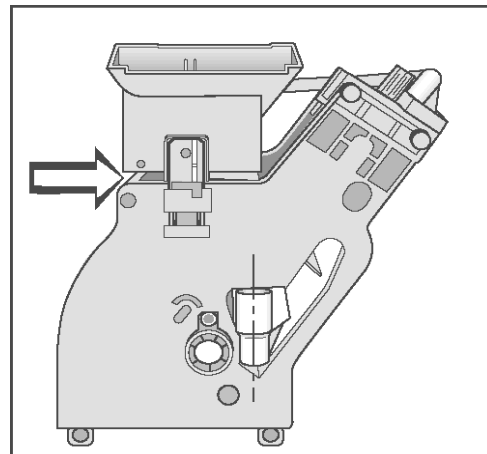

Figure 5-25: Brew Unit in reset position.
4. The “Home” position (Figure 5-25) after resetting the Brew Unit.